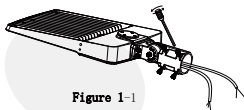

Figure 1-1
1. ADJUSTABLE FITTER MOUNTING (AM)
- Step 1: Loosen the 4 screws on the bracket with a screwdriver and make sure that the bracket can fit into the light pole, Figure 1-1;